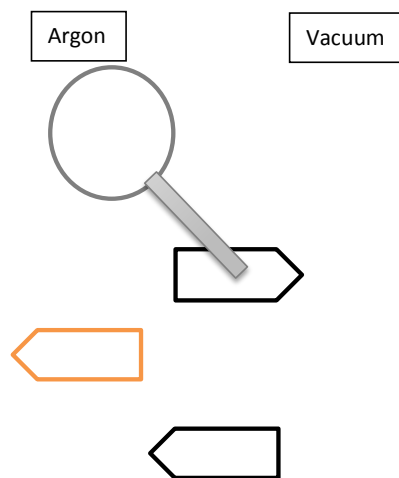

Figure 3 – system is closed
8. Switch the top knob to VACUUM (figure 3).
13. Close the system by turning the bottom knob to its horizontal position (should look like figure 3).